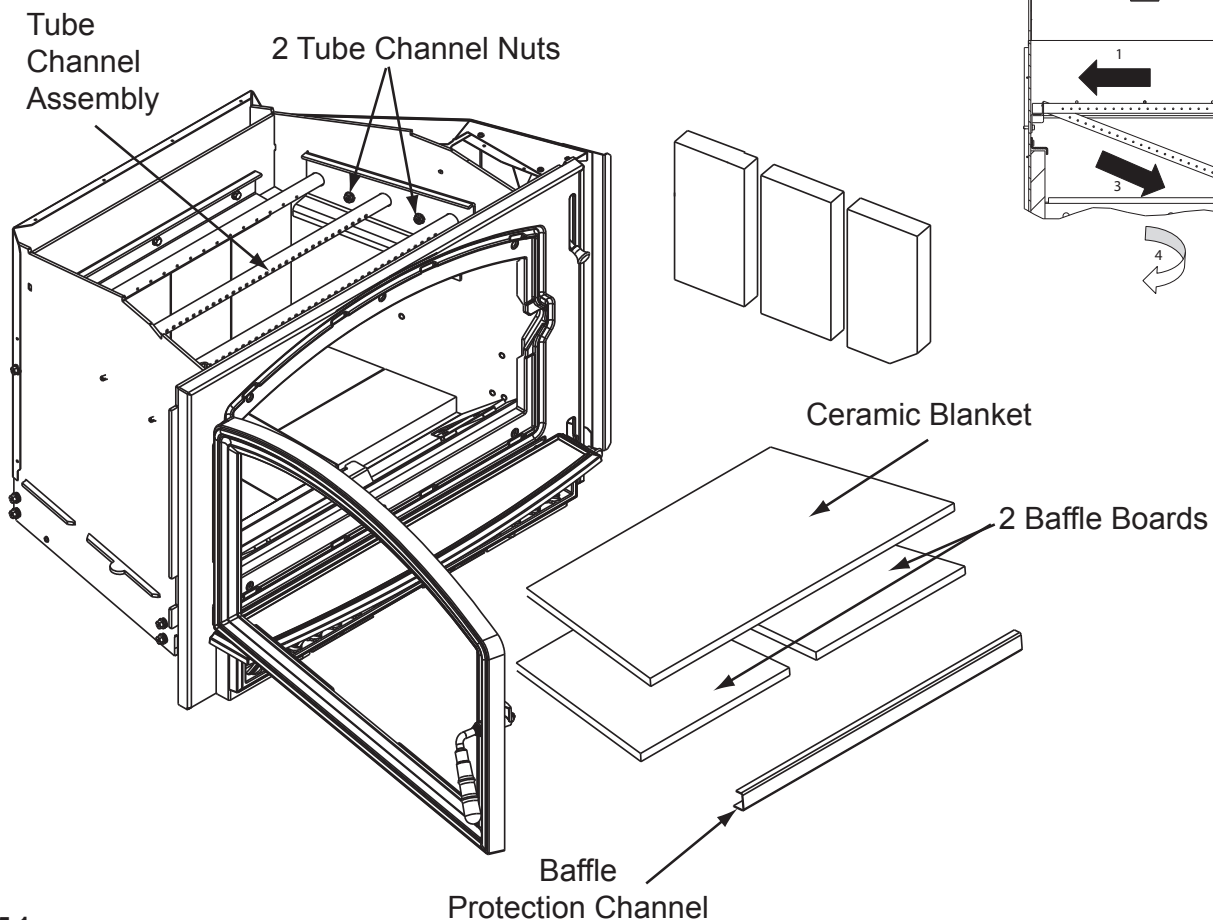

Figure 25.1
2. Remove the baffle protection channel by bending back the tabs using needle nose pliers located at the right and left side of the protection cover. Lift the cover up slightly and pull toward the front and out of the firebox (**Figure 25.1**).